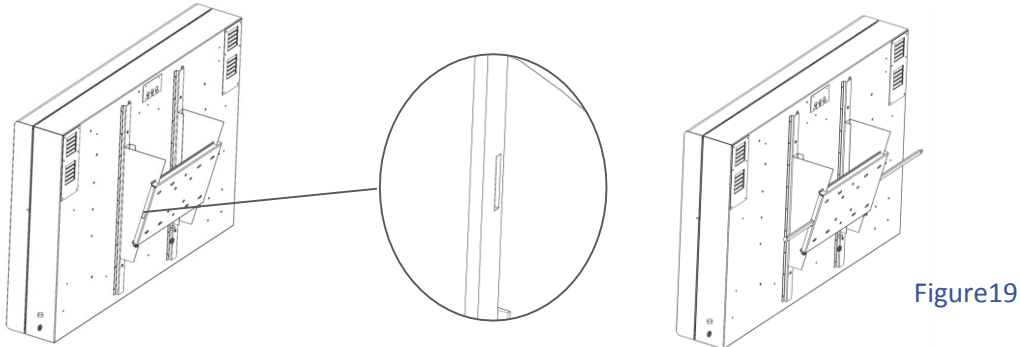

Figure19
STEP 28: To fully secure the unit to the wall and prevent issues of theft, take the locking bar and feed it through the slots on the mounting brackets and plate (Figure19)